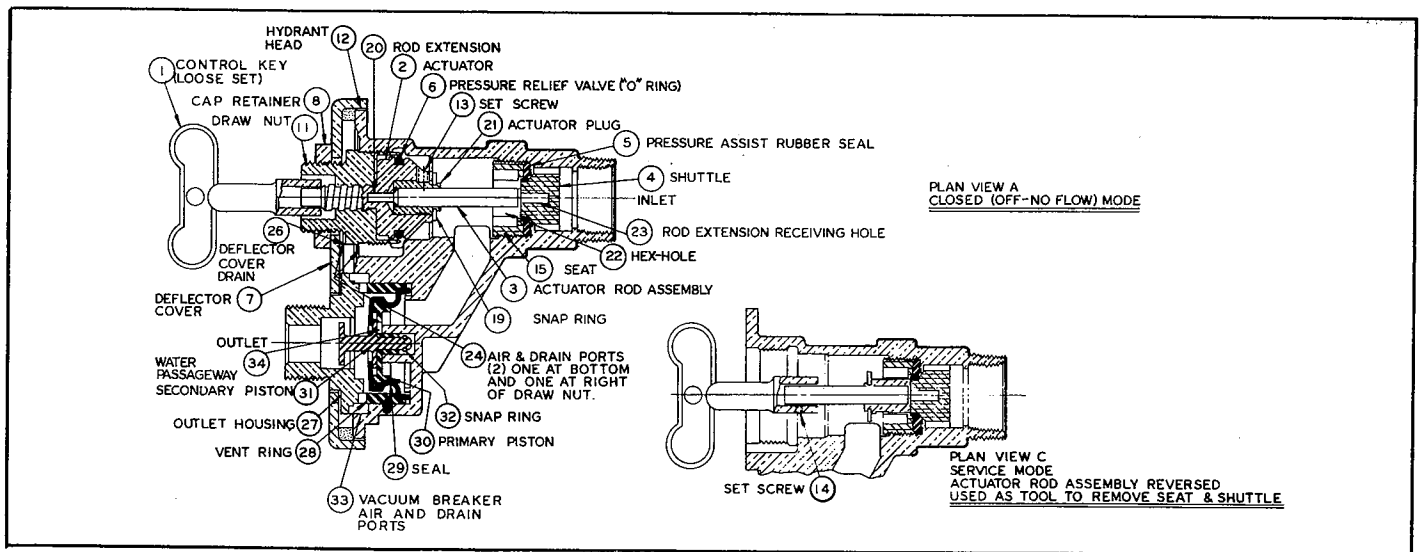

FIGURE 3
Refer to Figure 3 for identification of parts and features mentioned in these instructions.
D. Reverse Actuator Rod (3) and insert into hydrant as far as possible, using Control Key (1) secured to Actuator Rod (3) with Set Screw (14). With Actuator Plug (21) (hex.) on end of Actuator Rod (3) inserted in Hex. Hole (22) in Seat (15), which places Rod Extension (20) in Hole (23) in Shuttle (4), firmly rotate Control Key (1) counterclockwise to unscrew Seat (15) and pull out entire Valve (15, 5 and 4). See Figures 3, 6, and 7.
E. Replace worn parts with new parts as required. Reassemble hydrant, reversing the procedure in Steps A through D to place it back in service. Be sure to make Cap Retainer (8) tight to prevent tampering.